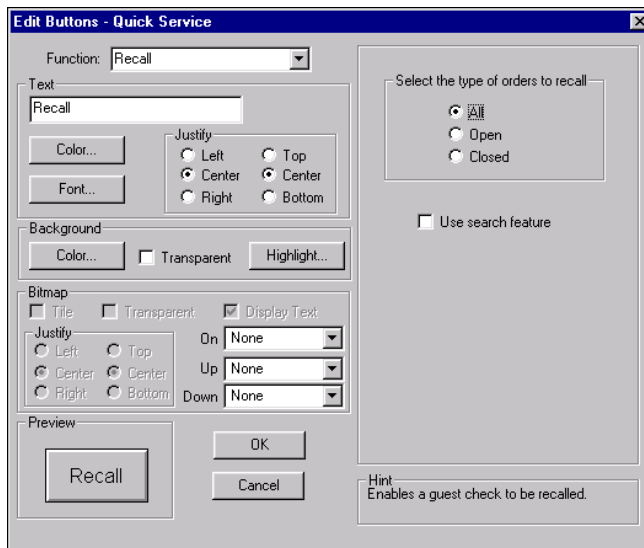

Figure 5-99 Recall Button Function
1. Select **Recall** from the **Function** drop-down list. Additional options display, as shown in Figure 5-99: